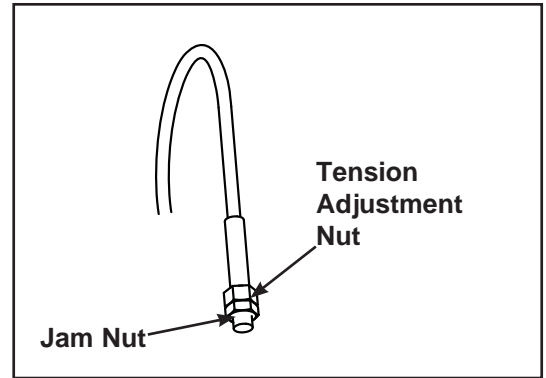

Figure 6
1. **Jam Nut Adjustment** - This type uses a jam nut and a tension adjustment nut at the cable cam end as the primary adjustment. The other end of the cable usually contains a roll pin adjustment. See Figures 6 and 7.